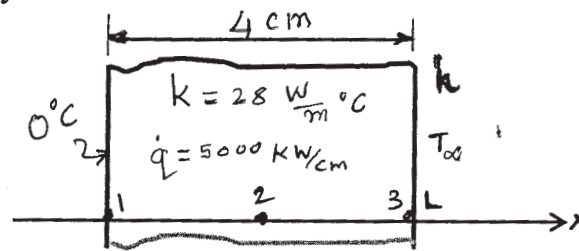

Figure : 1 Q.5(b)
b) A large plate of thickness  $L = 4\text{cm}$  and thermal conductivity  $k = 28\text{ W/m}^\circ\text{C}$  in which heat is generated uniformly at a constant rate of  $5000\text{ kW/cu.m}$ . One side of the plate is maintained at zero degree centigrade by iced water while other side is subjected to convection to an environment at  $T = 30^\circ\text{C}$  with a heat transfer co-efficient of  $h = 45\text{ W/sq.m.}^\circ\text{C}$ . as shown in the figure 1. Consider 3 equally spaced nodes, two at boundaries and one in the middle. Calculate the nodal steady state temperature of the plate by finite difference method. [10]